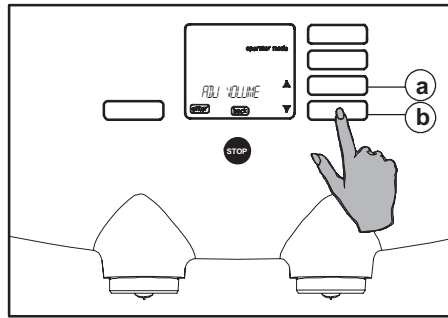

Fig. 69 Selection menu "ADJ VOLUME"
3. Use the scroll buttons \updownarrow (fig. 69 a or b) until the option "ADJ VOLUME" shows in the display.